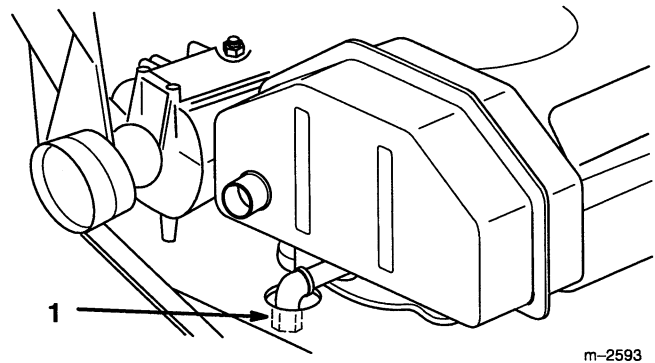

Figure 19
3. Place a pan below the oil drain. Remove the oil drain cap (Fig. 19).